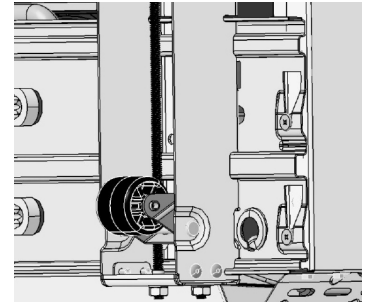

Fig. 3
- a. Fit the first Leveler Assembly onto a refrigerator/freezer (Fig. 3).